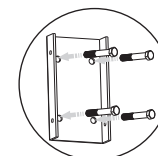
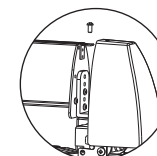

figure 5
figure 7
- 2 Install the fixation on the wall (choose the screws according to the materials of wall, Use the screw of accessory 7 for concrete-wall, and use the screw of accessory 8 for wood-wall) as figure 5. And then, install the Main Bar Overview to the fixation and fasten the screws (accessory 4) as figure 5. Finally, connect the GPD Adjusting Overview to the adjuster and then fasten the screws (accessory 6) as figure 7.